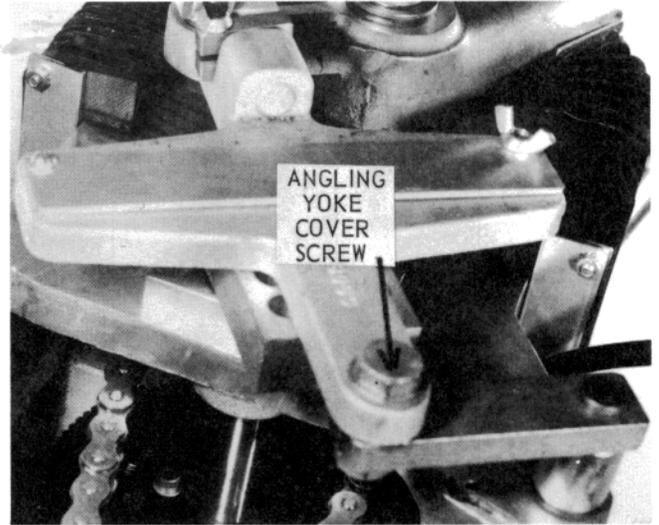

Figure 74 – Angling Yoke
- 6.1.10 Loosen angling yoke by removing the angling yoke cover screw (see Figure 74).